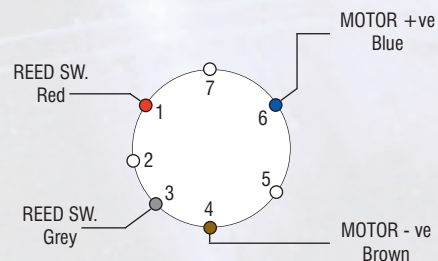

figure 1
3. Power cable (30ft) and 7 pin connector supplied as standard with all models (see fig 1 on page 5)